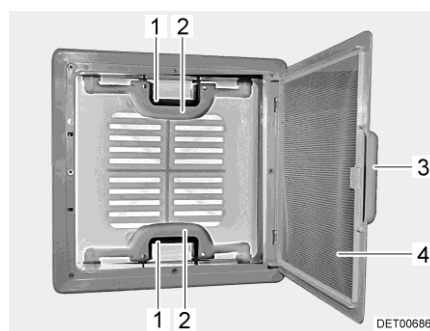

Fig. 26 Skylight with snap latch
- Pull on the handle (Fig. 26,3).
- Fold insect screen (Fig. 26,4) downward.
- Push the snap latch (Fig. 26,1) towards the inside of the skylight. At the same time use the handle (Fig. 26,2) to press the skylight upwards.
- Swing insect screen (Fig. 26,4) upwards until it latches in place.
- Using both handles (Fig. 26,2), pull down the skylight with force until the two snap latches (Fig. 26,1) lock into place.